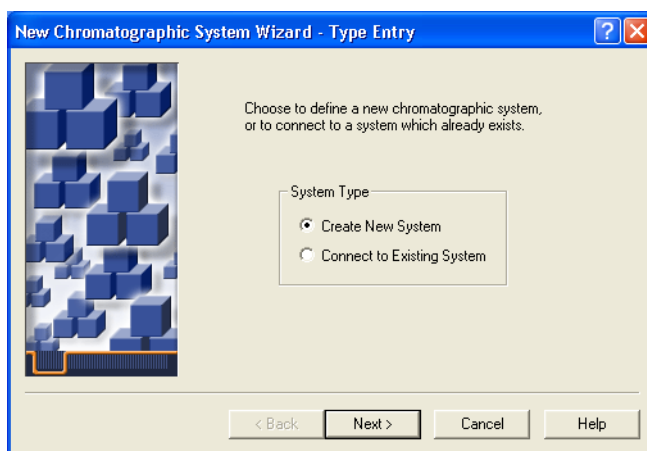

Figure 3-5 New Chromatographic System Wizard–Type Entry
1. Select **Manage > Create New System**. The New Chromatographic System Wizard–Type Entry page appears (Figure 3-5).